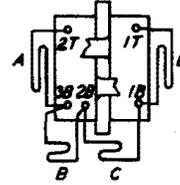

Fig. 108 - Terminal Arrangement as Viewed From the Rear (terminal side) — 40-Type Resistors
4.15 The winding terminals are numbered from right to left facing the terminal side of the resistor as shown in Fig. 108. The terminal numbers are followed by the suffix T (top) or B (bottom) to indicate that the terminal is in the top or bottom row of terminals.